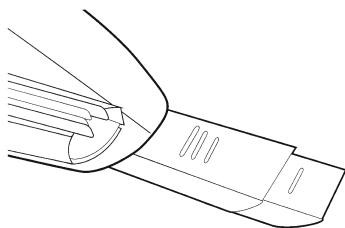

Fig. 3
1. Remove the appliance from the charging station (2).
2. Use the crevice tool attachment (6) (Fig. 3), which also serves as an extension.